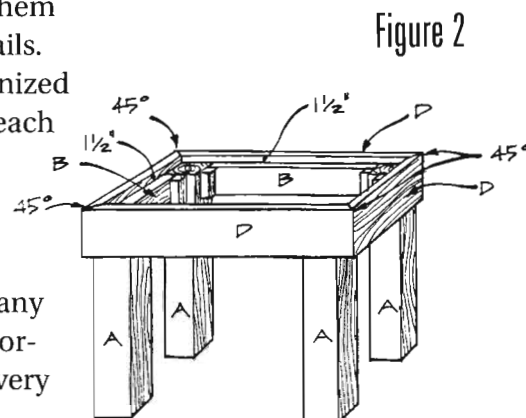

Figure 2
5. Cut four table trim pieces (D) from 2 x 6 treated pine, each 37 inches long.
6. Standing each table trim piece (D) on its edge, miter both ends at a 45-degree angle. Attach the mitered trim to the assembled base 1-1/2 inches above the side supports (B), as shown in *Figure 2*. Use exterior wood glue and 4-1/2-inch-long screws to attach the trim pieces to the legs (A). Use at least three screws on each end of each table trim piece (D).